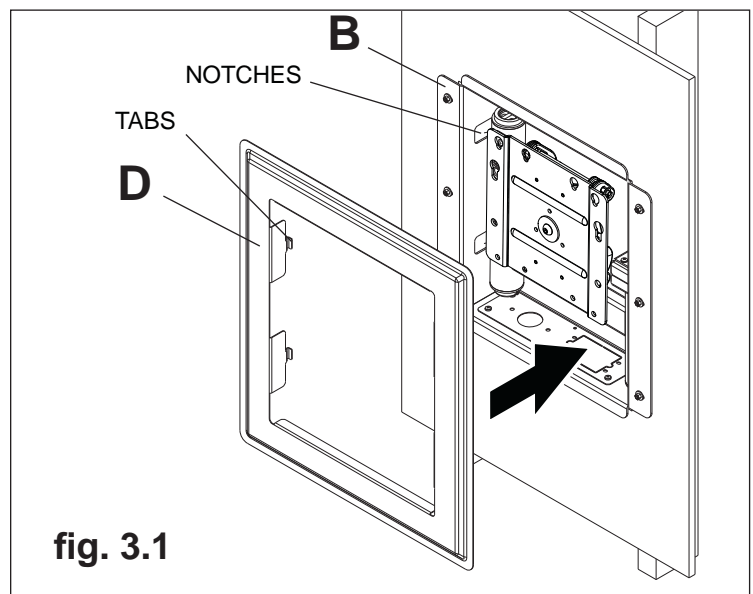

fig. 3.1
- 3 Insert tabs of outer trim (D) into notches of in-wall box (B) as shown in figure 3.1.